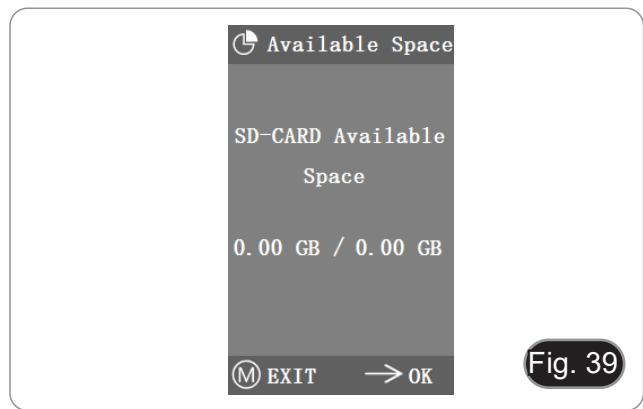

Fig. 39
2. If "0.00 Gb / 0.00 Gb" is displayed (Fig. 39), the SD card was not successfully inserted; please try to reinsert it.